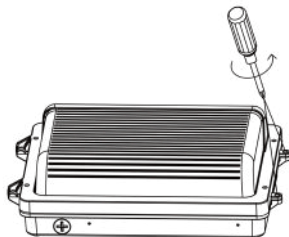

Fig. 3.1
1. Remove both screws on the side of the luminaire with a screwdriver (Fig 3.1).